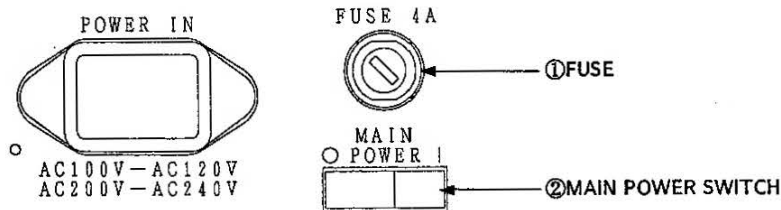

Fig. 5-1 Rear Panel
(1) Power ON
After switching "ON" the **MAIN POWER** switch indicated by ② on Figure 5-1, if you switch "ON" the **POWER** switch on the front left panel, the **POWER** LED lights up and the system comes on. (The system is shipped from the factory with this switch "ON".)